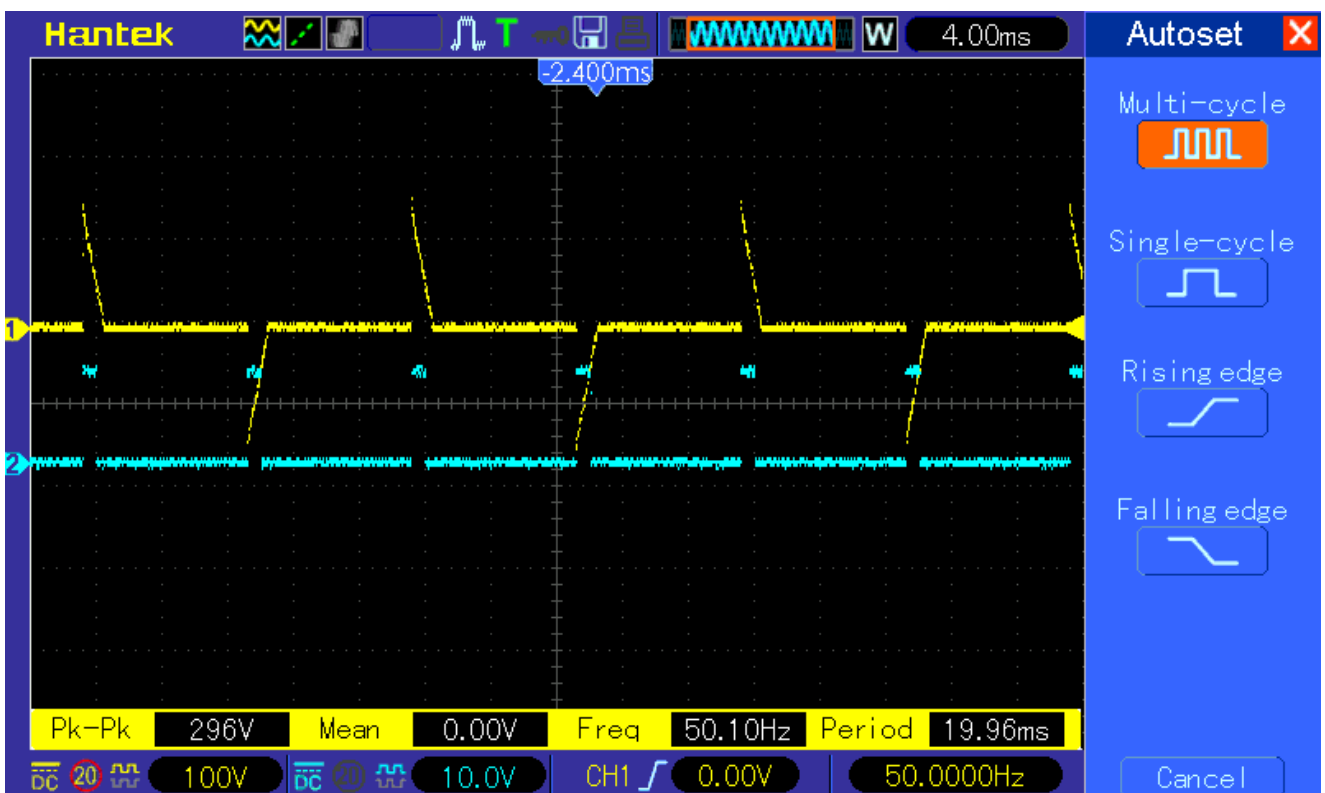

Figure 10: PWM at 15%
9. Click on Tools Tab, move mouse pointer on "Board: xxxxxxxxxxxx" and click on "NodeMCU0.9 (ESP-12 Module)" as shown in figure 10.